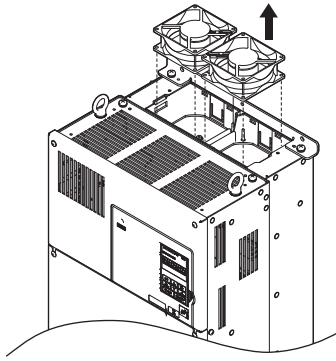

Figure 7.14 Removing the Cooling Fan: 4A0075, 4A0091
- Lift up directly on the cooling fan as shown in Figure 7.14. Unplug the relay connector and release the fan from the drive.